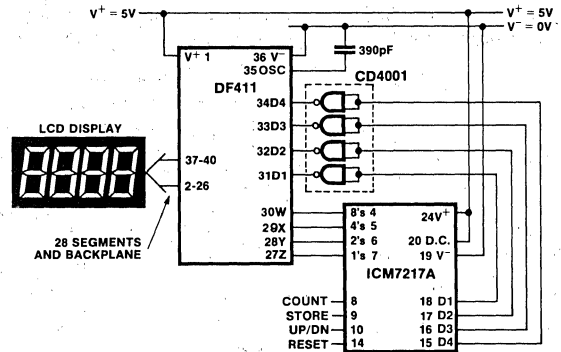

Figure 14: LCD Display Interface
9. LCD DISPLAY INTERFACE (Figure 14)